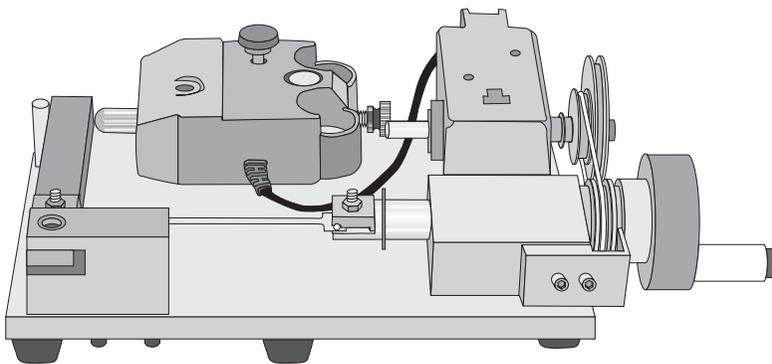

Figure 6: Coupon Installed
- c. Adjust the crank so that the opposite end of the coupon can slip easily under the other clip (Figure 6).